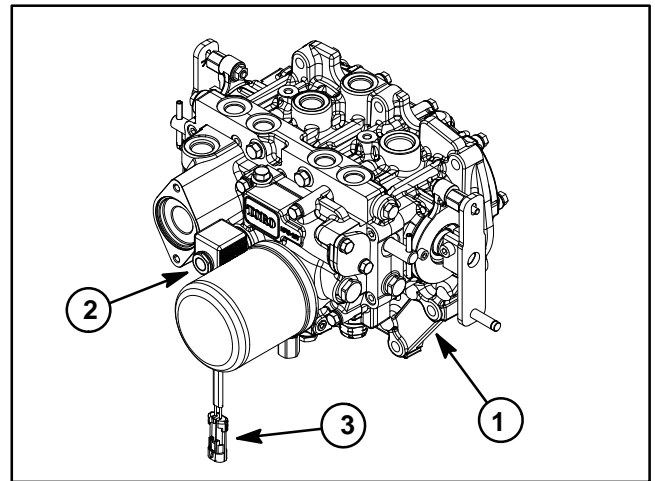

Figure 44
2. To prevent unintentional engagement of the PTO clutch, disconnect the wire harness electrical connector from the PTO solenoid valve coil connector (Fig. 44).
- Loosen two (2) cap screws and lock nuts.
6. Connect the wire harness electrical connector to the PTO solenoid valve coil connector (Fig. 44).